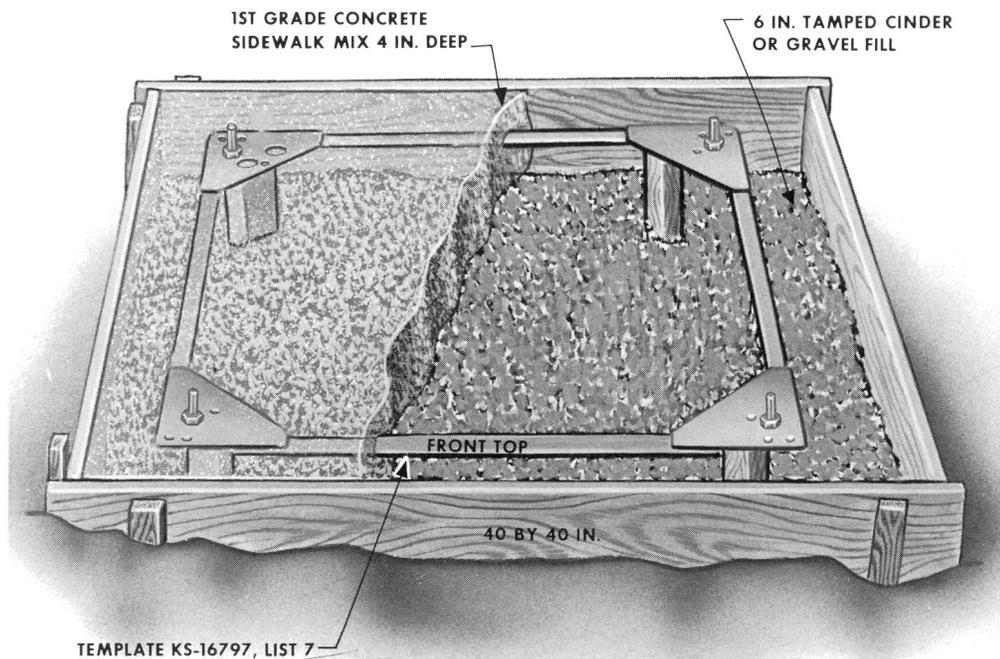

Fig. 1 — Base Preparation with KS-16797, List 7 Template
2.04 When necessary to provide a concrete base, the KS-16797, List 7 template is used as shown in Fig. 1.